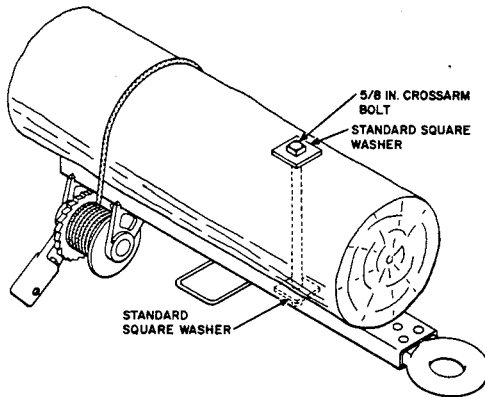

Fig. 13—Method of Attaching AT-8137 Drawbar to Pole
6.03 To use the AT-8137 L1A Drawbar, select the longest straight pole as the "king pole" and fasten securely using the king pole binders. Bolt the drawbar to the pole using a 5/8-inch crossarm bolt and two square washers. Align the drawbar with the pole so the calks of the drawbar will be centered and penetrate into the pole. Pass the wire rope of the AT-8139 L1A Pole Binder around the pole, fasten the eye on the rope knob, and bind the drawbar to the pole using the winch. Fig. 13 shows the drawbar bound to the king pole.